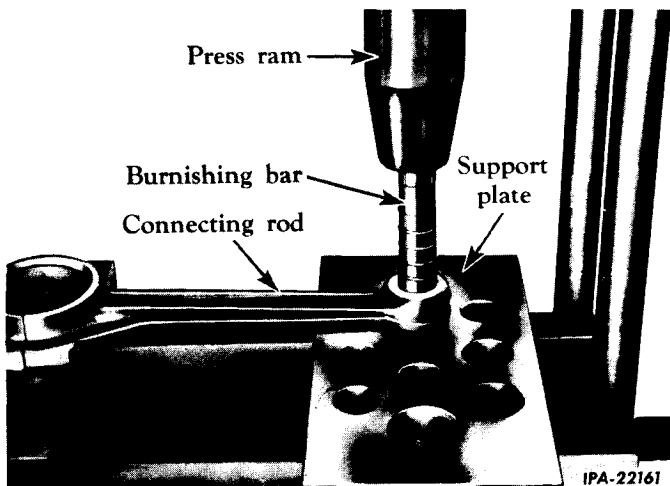

Fig. 10 - Burnishing Connecting Rod Bushings.
14. Burnish bushing into place in the connecting rod (Fig. 10) and then ream bushing to provide the dimensions shown in "SPECIFICATIONS," Section 1.